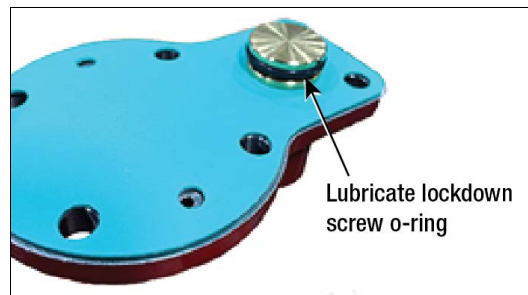

Figure 7. Functional Element Screw Tightening Sequence
- Lubricate the o-ring on the Lockdown Screw, using petroleum jelly (see Figure 7).